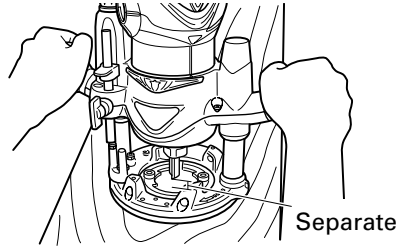
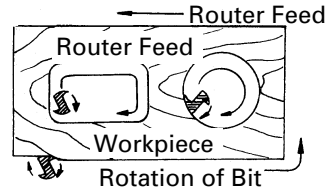

Fig. 7
Fig. 8
- (1) The bit must be kept clear of the materials which are to be cut, when the power is being turned on. (Fig. 7)
- (2) Then turn the tool on and wait until the bit attains full speed.
- (3) Lower the tool body with pressing the lock lever down.
- (4) Release the lock lever at the lowest position and push it further to lock the tool body securely.
- (5) The bit rotates clockwise (arrow direction indicated on the base). To obtain maximum cutting effectiveness, feed the router in conformance with the feed directions shown in Fig. 8.